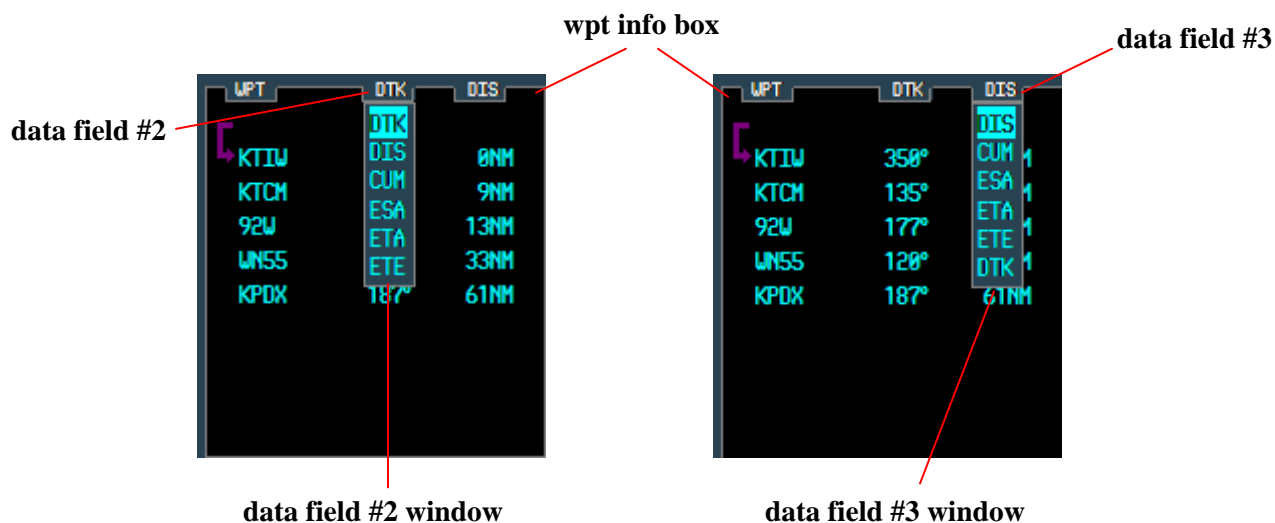

Figure 7.13
10.3 click on the ENTER key to display one of the change fields window. There are 2 windows available to change the parameters displayed in data fields #2 and #3 on the wpt info box (Figure 7.13). Only one window is open at a time.